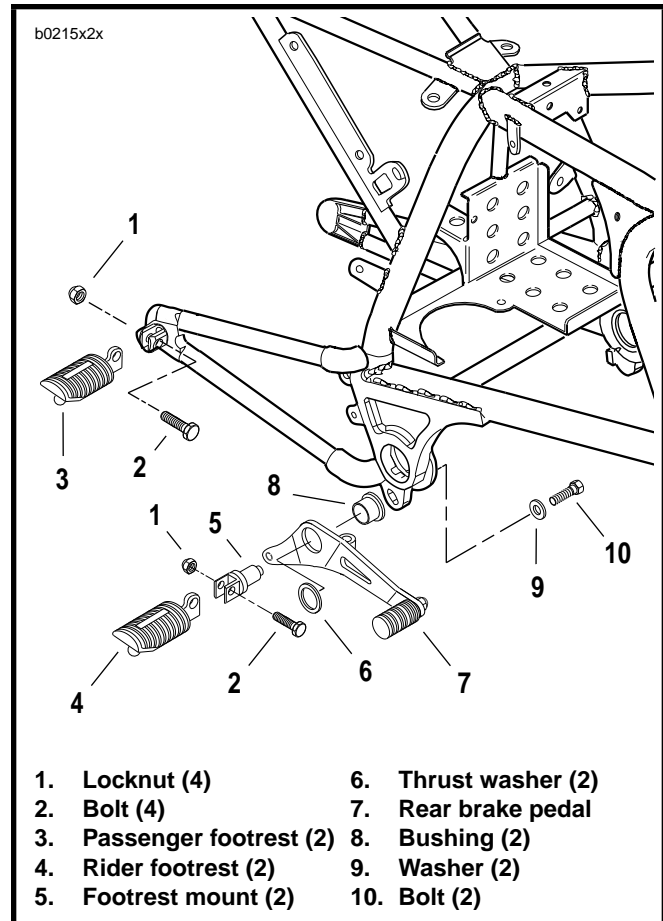

Figure 2-59. Footrests, Right Side
1. See Figure 2-59. Remove locknut (1) and bolt (2).
- a. Detach passenger footrests (3) from frame.
- b. Detach rider footrests (4) from footrest mounts (5).
3. If necessary, remove bolts (10) and washers (9) to remove footrest mounts from frame.
1. See Figure 2-59. Install passenger footrests with bolts (2) and locknuts (1). Tighten securely.